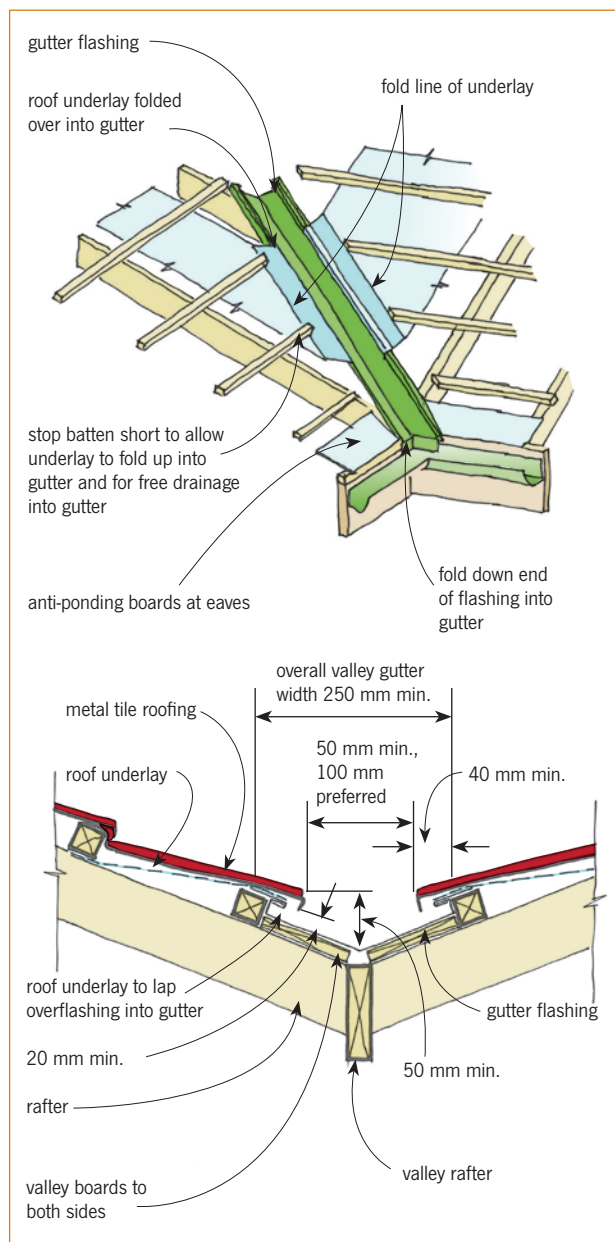

Figure 2. Valley detail.
5. Install valleys (Figure 2). Valley laps and junctions are to be riveted and sealed using the method given in the NZMRM CoP.